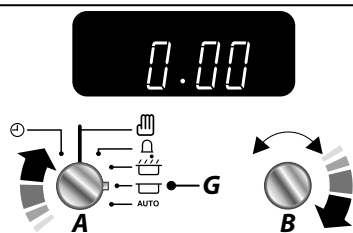

Fig. 2.27
3. Continue to turn the **Adjusting (B)** knob to the amount of time required e.g. 1 minute. The display will show the current time plus the required length of time you have set (**Fig. 2.27**).
4. Turn the **Timer (A)** knob to the **Auto (H)** setting (**Fig. 2.27**). The display will show the current time, the Cooking symbol and the word **'AUTO'** (**Fig. 2.27**).